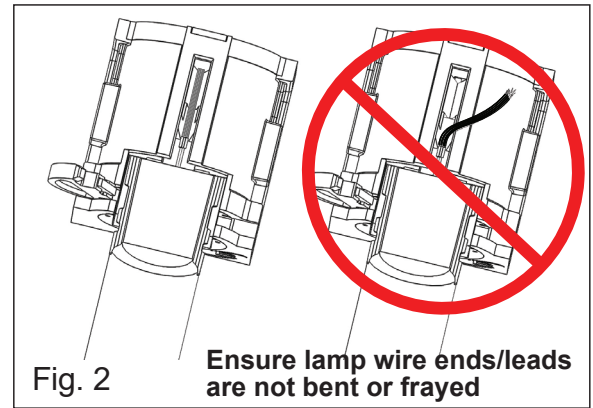

Fig. 2 Ensure lamp wire ends/leads are not bent or frayed
2. Ensure that the wire ends/leads of the lamp are not bent or frayed (Fig. 2).